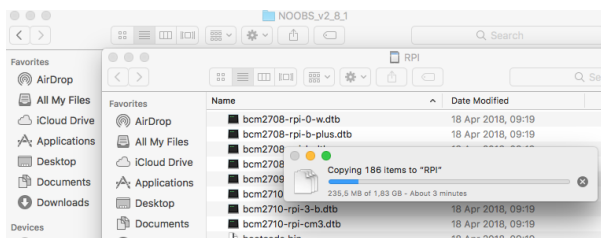

Figure 1-2 Copying NOOBS.
- Copy the files from folder NOOBS_xxx to SD Card as shown in Figure 1-2.